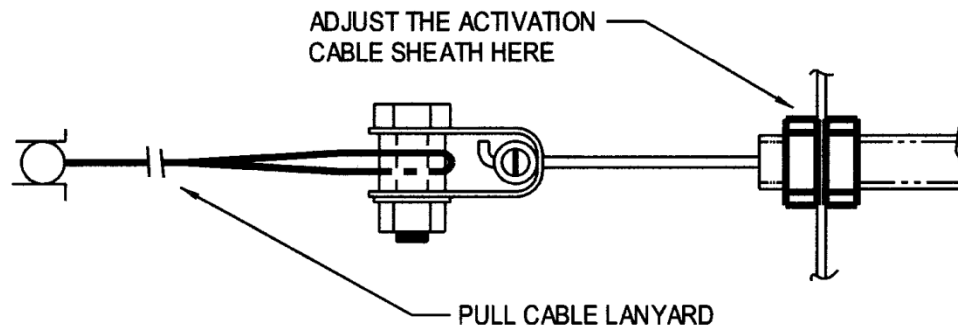

Figure 5-3. Activation Cable Rigging
F. Position the pull cable lanyard in the activation cable clevis and install the hardware. Adjust the activation cable sheath so that there is no slack between the pull cable and the activation cable (Refer to Figure 5-3). Secure the jam nuts.